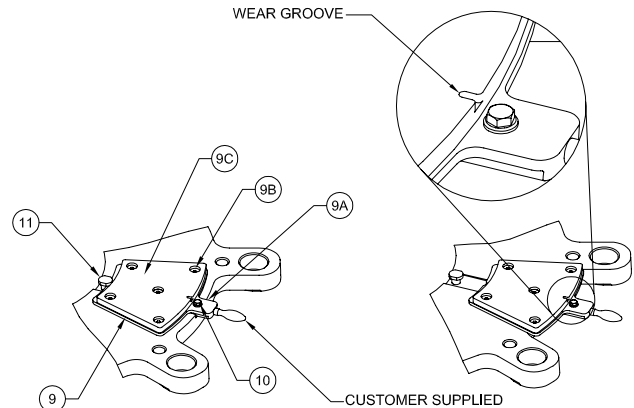

Figure 9
Note: Friction lining (9C) replacement is required when worn to the bottom of the wear groove on the friction lining (See Figure 9) or if oil or grease has contaminated the surface of the friction lining. Airflex FHB brakes are supplied with a detachable friction lining which can be replaced without having to fully dis-assemble the brake. Friction linings should be replaced as a complete set (all linings replaced at one time) to ensure proper brake operation. Friction linings must be replaced when replacing the disc (4).
- 4.3.5.1 If only the friction linings (9C) need to be replaced, remove the flat head screws (9B) that secure the friction lining (9C) onto the backing plate (9A). Remove the friction lining from the backing plate and discard the friction lining and flat head screws. Refer to Figure 9.